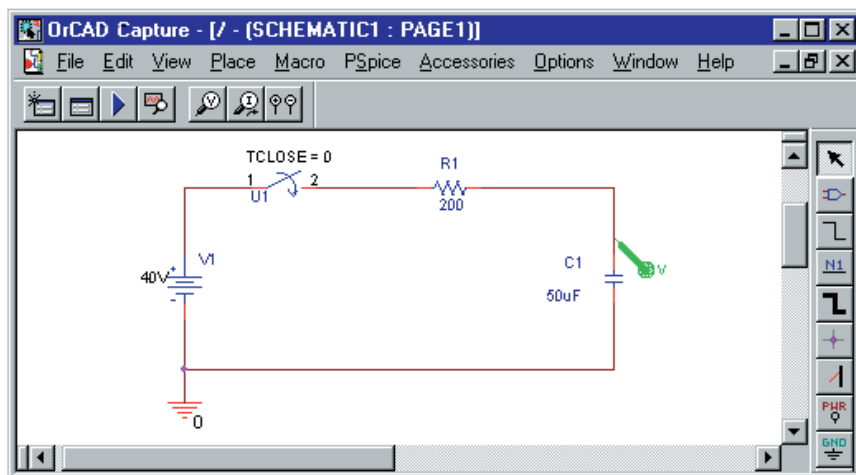
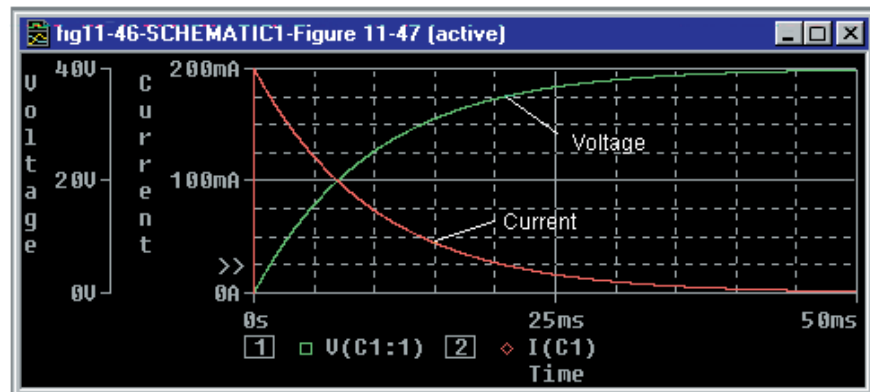
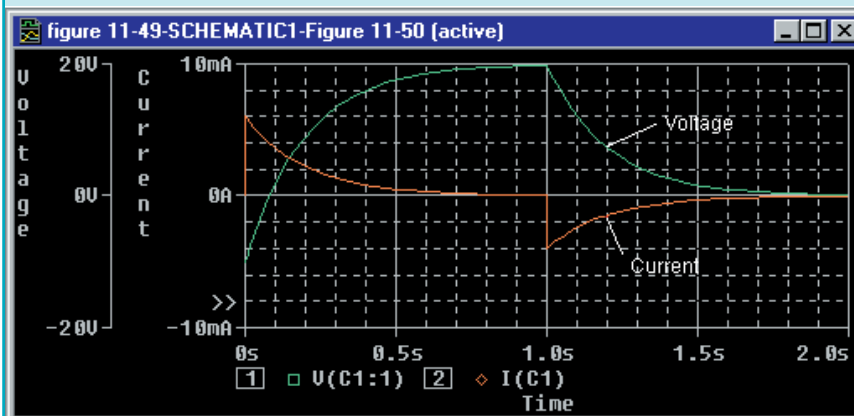

FIGURE 11-46 PSpice example. The voltage marker displays voltage with respect to ground, which, in this case, is the voltage across C_1 .
FIGURE 11-47 Waveforms for the circuit of Figure 11-46.
FIGURE 11-50 Waveforms for the circuit of Figure 11-49 with $V_0 = -10$ V.
- Create the circuit on the screen as in Figure 11-46. (The switch can be found in the EVAL library as part Sw_tClose.) Remember to rotate the capacitor three times as discussed in Appendix A, then set its initial condition (IC) to zero. To do this, double click the capacitor symbol, type **0V** into the Property editor cell labeled IC, click Apply, then close the editor. Click the New Simulation Profile icon, enter a name (e.g., **Figure 11-47**) then click Create. In the Simulation Settings box, click the Analysis tab, select Time Domain (Transient) and in Options, select General Settings. Set the duration of the transient (TSTOP) to 50ms (i.e., five time constants). Find the voltage marker on the toolbar and place as shown.
- Click the Run icon. When simulation is complete, a trace of capacitor voltage versus time (the green trace of Figure 11-47) appears. Click Plot (on the toolbar) then add Y Axis to create the second axis. Activate the additional toolbar icons described in Operational Note 5, then click the Add Trace icon on the new toolbar. In the dialog box, click I(C1) (assuming your capacitor is designated C_1), then OK. This adds the current trace.
3. Sometimes you get choppy waveforms. If this happens, enter a suitable value for Maximum step size in the Simulation Profile box. If you make the value too large, the waveform will be choppy, while if you make it too small, simulation time will be too lengthy. Values usually aren't critical, but you may need to experiment a bit. (To illustrate, you can smooth the waveforms of Figure 11-47 using a Maximum step size of 10us, and the curves of Figure 11-50 with a step size of 20ms.)
4. For transient problems you need to specify an initial condition (IC) for each capacitor and inductor. The procedure is described in the examples.
5. To activate the icons used for adding and viewing waveforms in these examples, you may need to set up additional toolbar icons. Proceed as follows: When the display of Figure 11-47 appears, click Tools, Customize, select the Toolbars tab, select all toolbars shown, i.e., File, Edit, Simulate, Probe and Cursor, then click OK. Position the pointer over various icons to note their function.
As a second example, consider the circuit of Figure 11-21 (shown as Figure 11-48). Create the circuit using the same general procedure as in the previous example, except do not rotate the capacitor. Again, be sure to set V_0 (the initial capacitor voltage) to zero. In the Simulation Profile box, set TSTOP to 50ms. Place differential voltage markers (found on the toolbar at the top of the screen) across C to graph the capacitor voltage. Run the analysis, create a second axis, then add the current plot. You should get the same graph (i.e., Figure 11-47) as you got for the previous example, since its circuit is the Thévenin equivalent of this one.
for TR, 0 for TD, 20V for V2, and 0V for V1. (This defines a pulse with a period of 5 s, a width of 1 s, rise and fall times of 1 μ s, amplitude of 20 V, and an initial value of 0 V.) Click Apply, then close the Property editor. Double click the capacitor symbol and set IC to -10V in the Properties Editor. Set TSTOP to 2s. Place a Voltage Marker as shown, then click Run. You should get the voltage trace of Figure 11-50 on the screen. Add the second axis and the current trace as described in the previous examples. The red current curve should appear.